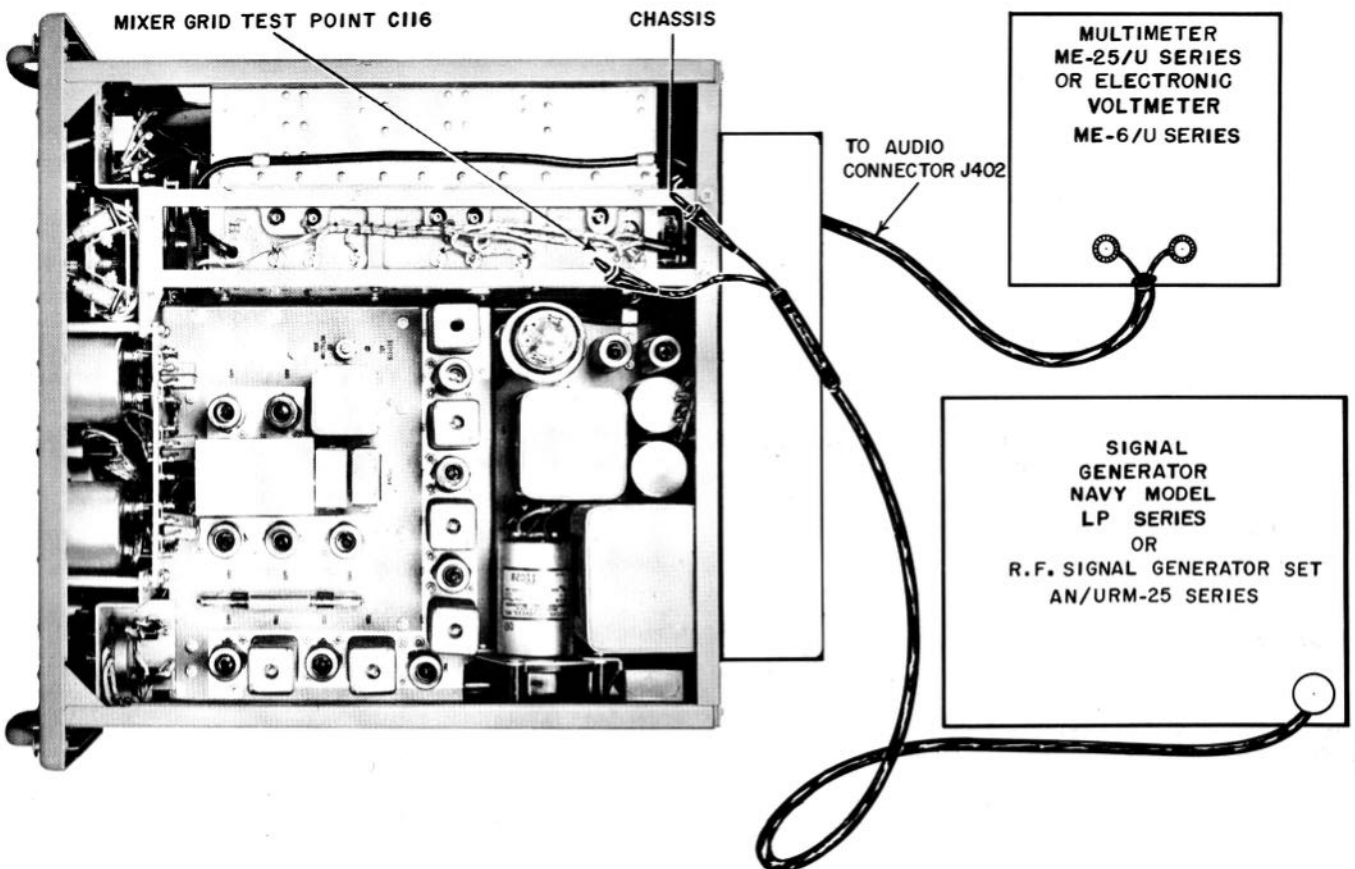

Figure 7-3. Bench Set-up for Alignment of I-f Section of Receiver
c. ALIGNMENT OF THE I-F SECTION OF THE RECEIVER (See figure 7-3).
(1) Connect the output of a Navy model LP